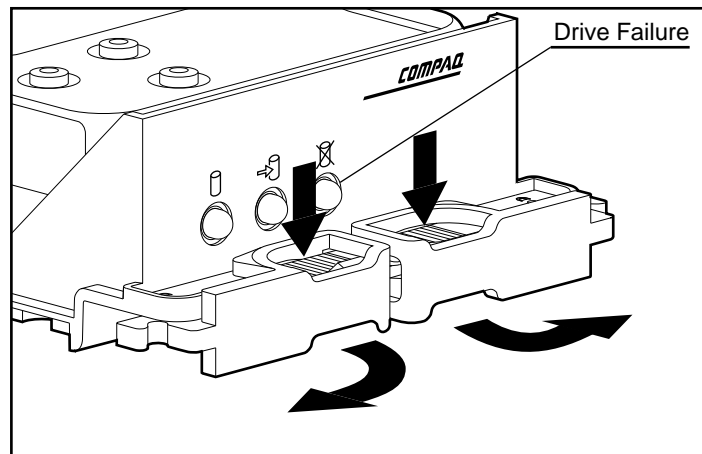

Figure 3-5.Compaq ProLiant Hard Drive
2. Identify the failed drive by finding the drive tray with the drive failure light illuminated as shown in Figure 3-5.